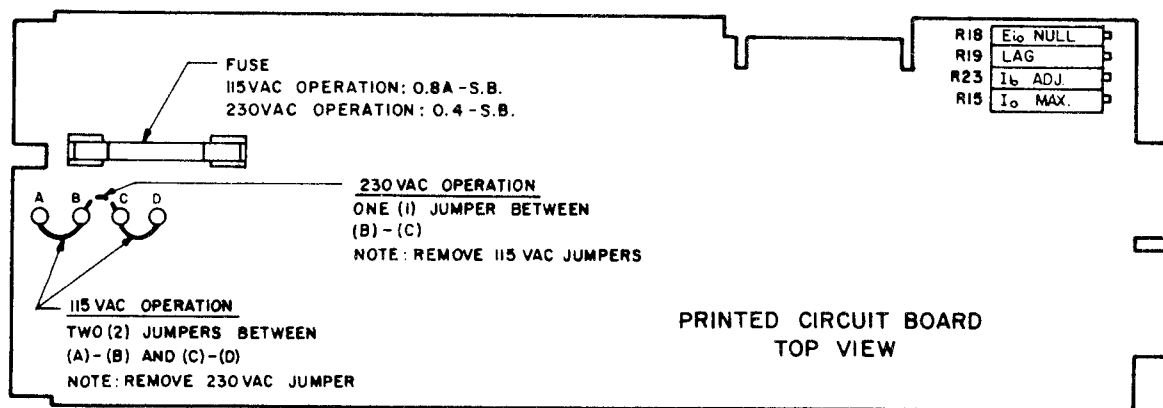
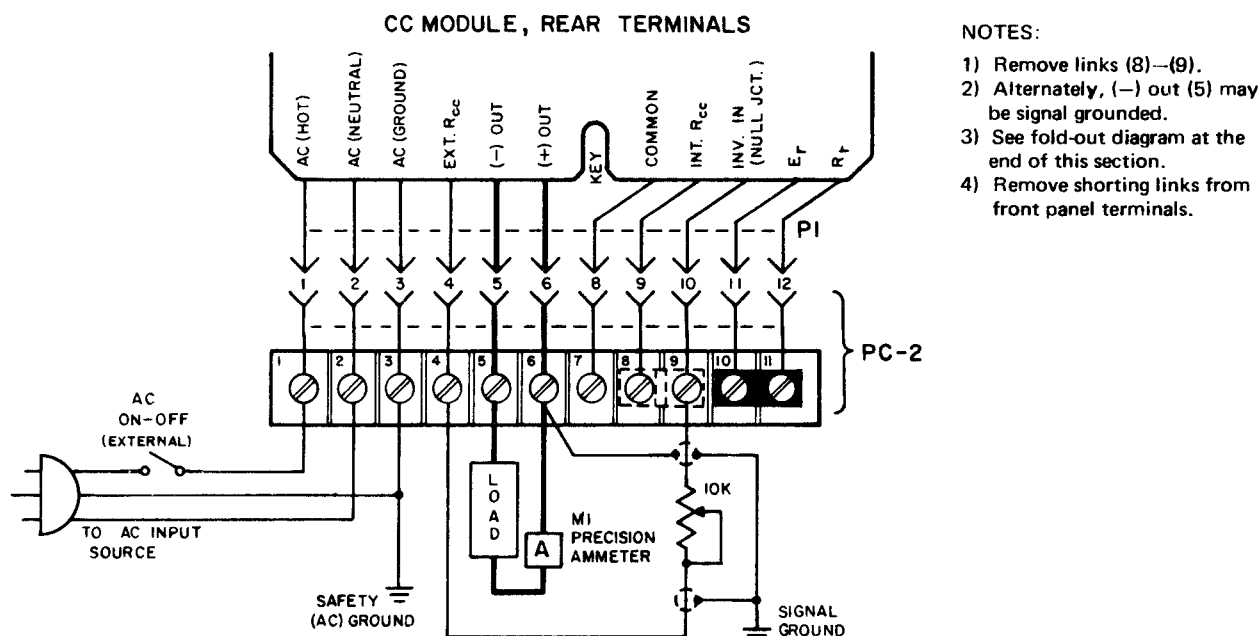

FIG. 2-1 LOCATION OF SOURCE SELECTOR AND INTERNAL ADJUSTMENTS.
FIG. 3-4 PROGRAMMING RATIO ADJUSTMENT FOR REMOTE RESISTANCE CONTROL.
- c) INTERNAL ADJUSTMENTS: Refer to TABLE 2-1 and FIG. 2-1.
- 2-5 CC Current Stabilizers are normally delivered for operation on a single phase, 105 to 125V a-c input source, 50 to 440 Hz. For operation on 210 to 250V a-c input sources, the jumper connections for the main transformer (T201) must be changed as shown in FIG. 2-1.
- b) Remove bare wire jumpers between terminals (A) and (B) as well as (C) and (D).
- c) Connect bare wire jumper between jumper terminals (B) and (C).
- d) Insert correct fuse value. (See FIG. 2-1.)
- a) With the external programming resistor connected as shown (Refer to FIG. 3-4), and a precision ammeter in series with the load (optional, since the panel ammeter may be used if an accuracy of $\pm 3\%$ is sufficient), locate the " I_b adj." and " E_{iO} null" controls on the printed circuit board (Refer to FIG. 2-1).